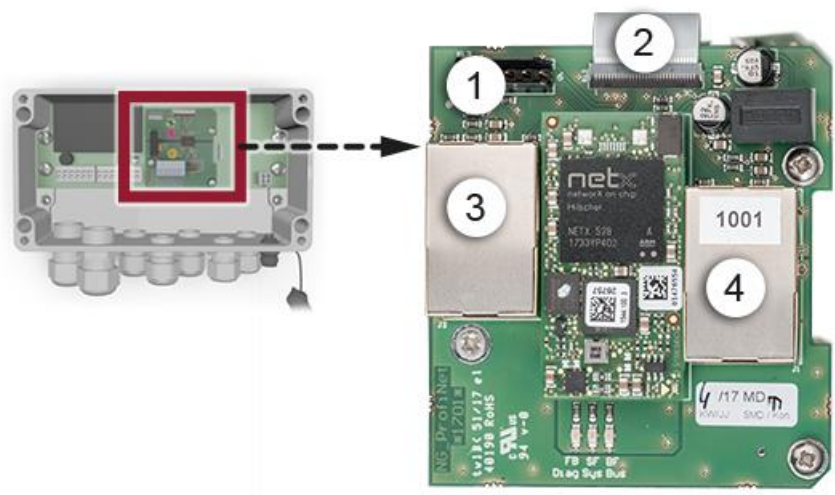

Figure 13: Overview of the Profinet IO module in the SIPOINT 2
- If the photometer is used as a terminal device, DIL switch S2/1 must be switched ON on the connection module (Figure 13, pos. 3).